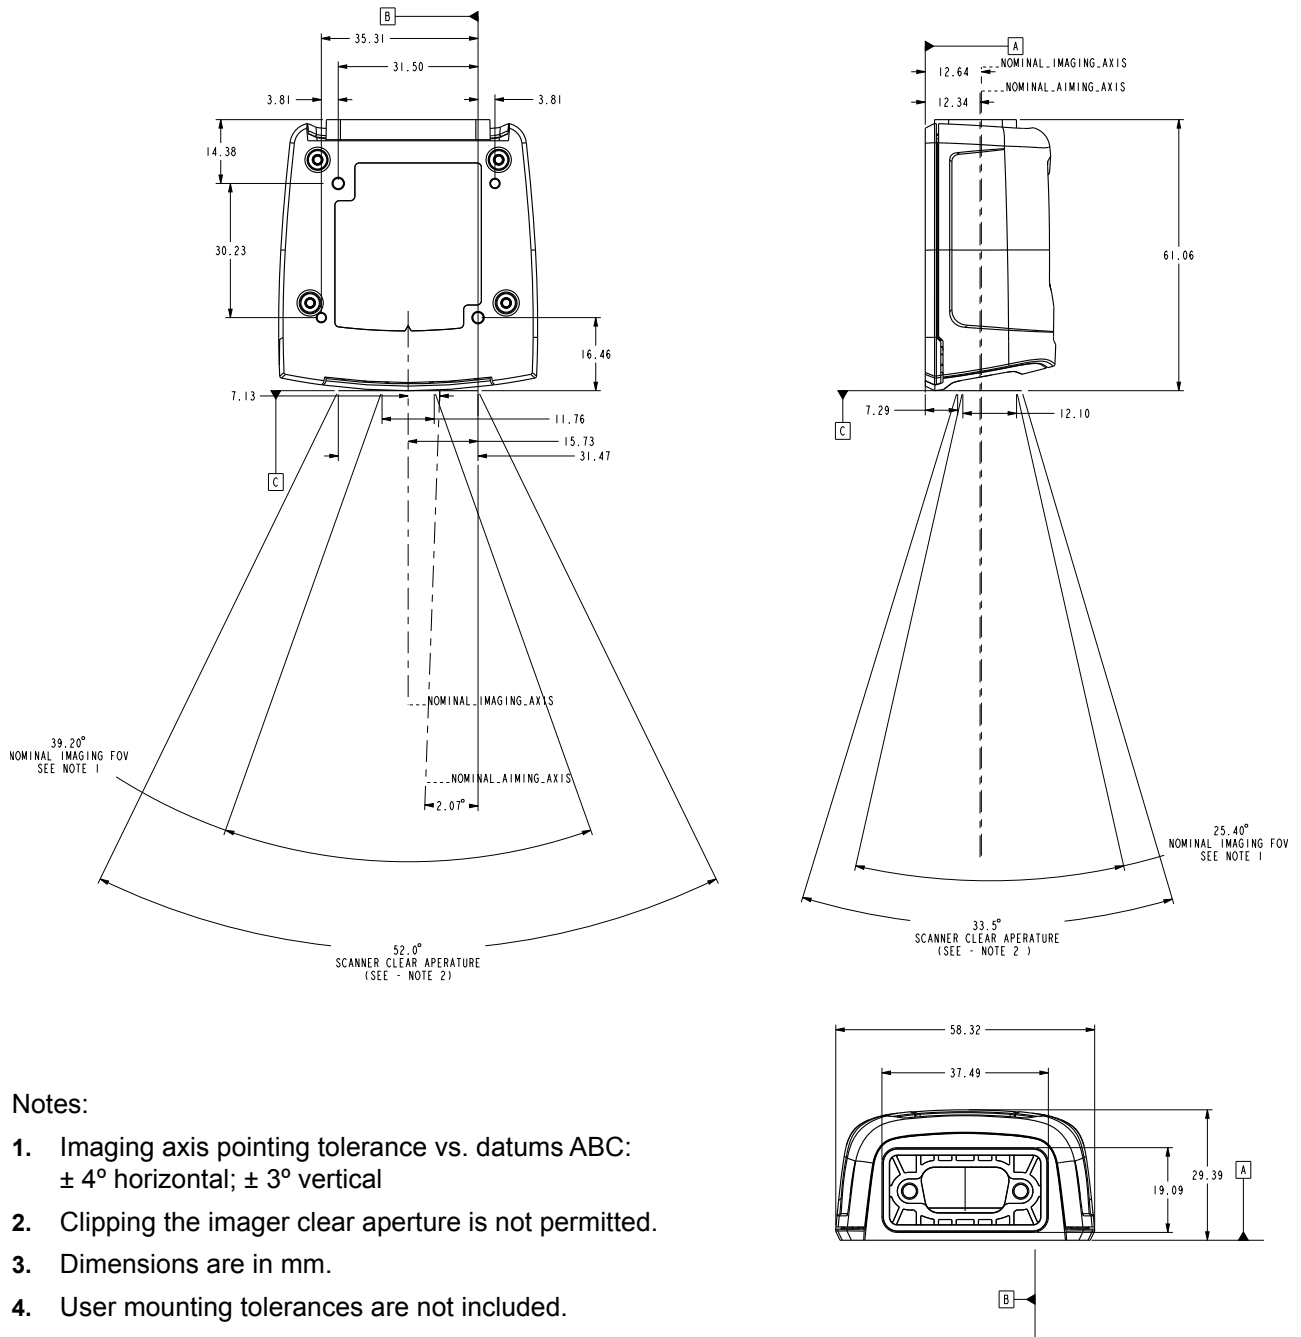

Figure 2-11 DS457 Optical Path and Exit Window
- Ensure the window size is large enough to cover the engine clear aperture specified in Figure 2-11 plus mounting tolerances of the window relative to the engine.